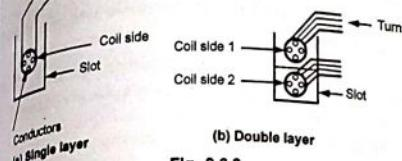

Fig. 9.6.3
- This is shown in the Fig. 9.6.3 (a).
- While there are two coil sides per slot, one at the bottom and one at the top the winding is called double layer as shown in the Fig. 9.6.3 (b).